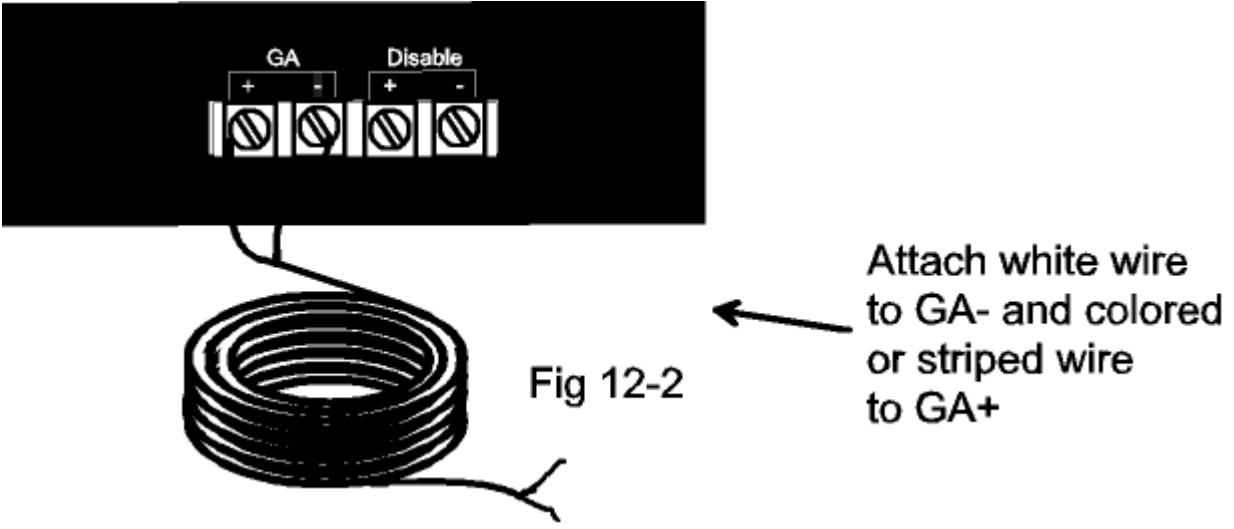

Fig 12-2
Approximate the length of the wire needed to connect to the Autocloser. Add one foot to this approximation and cut the wire. Strip the wires on this end of Item (11). Attach the colored or striped wire to the screw terminal labeled GA + on the Autocloser box. Attach the white wire to the screw terminal labeled GA - on the Autocloser unit. (**Fig. 12-2**).